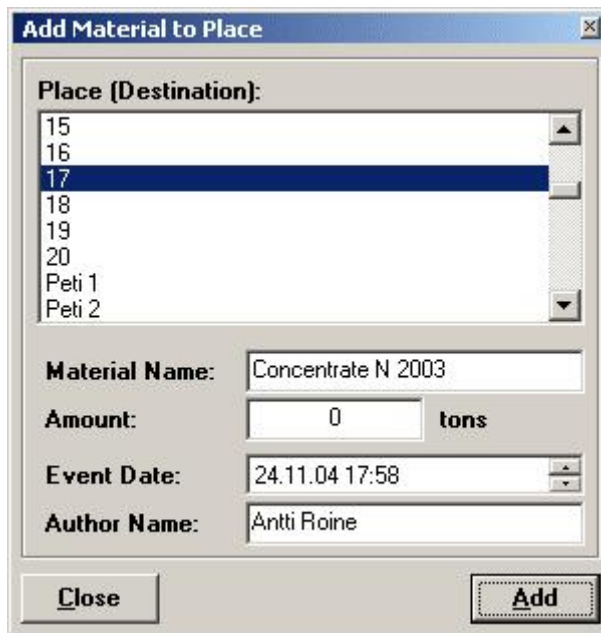

Fig 15. The Add Material Dialog may be used to add new material to a stock place.
2. Select the place from the list, Fig. 15.